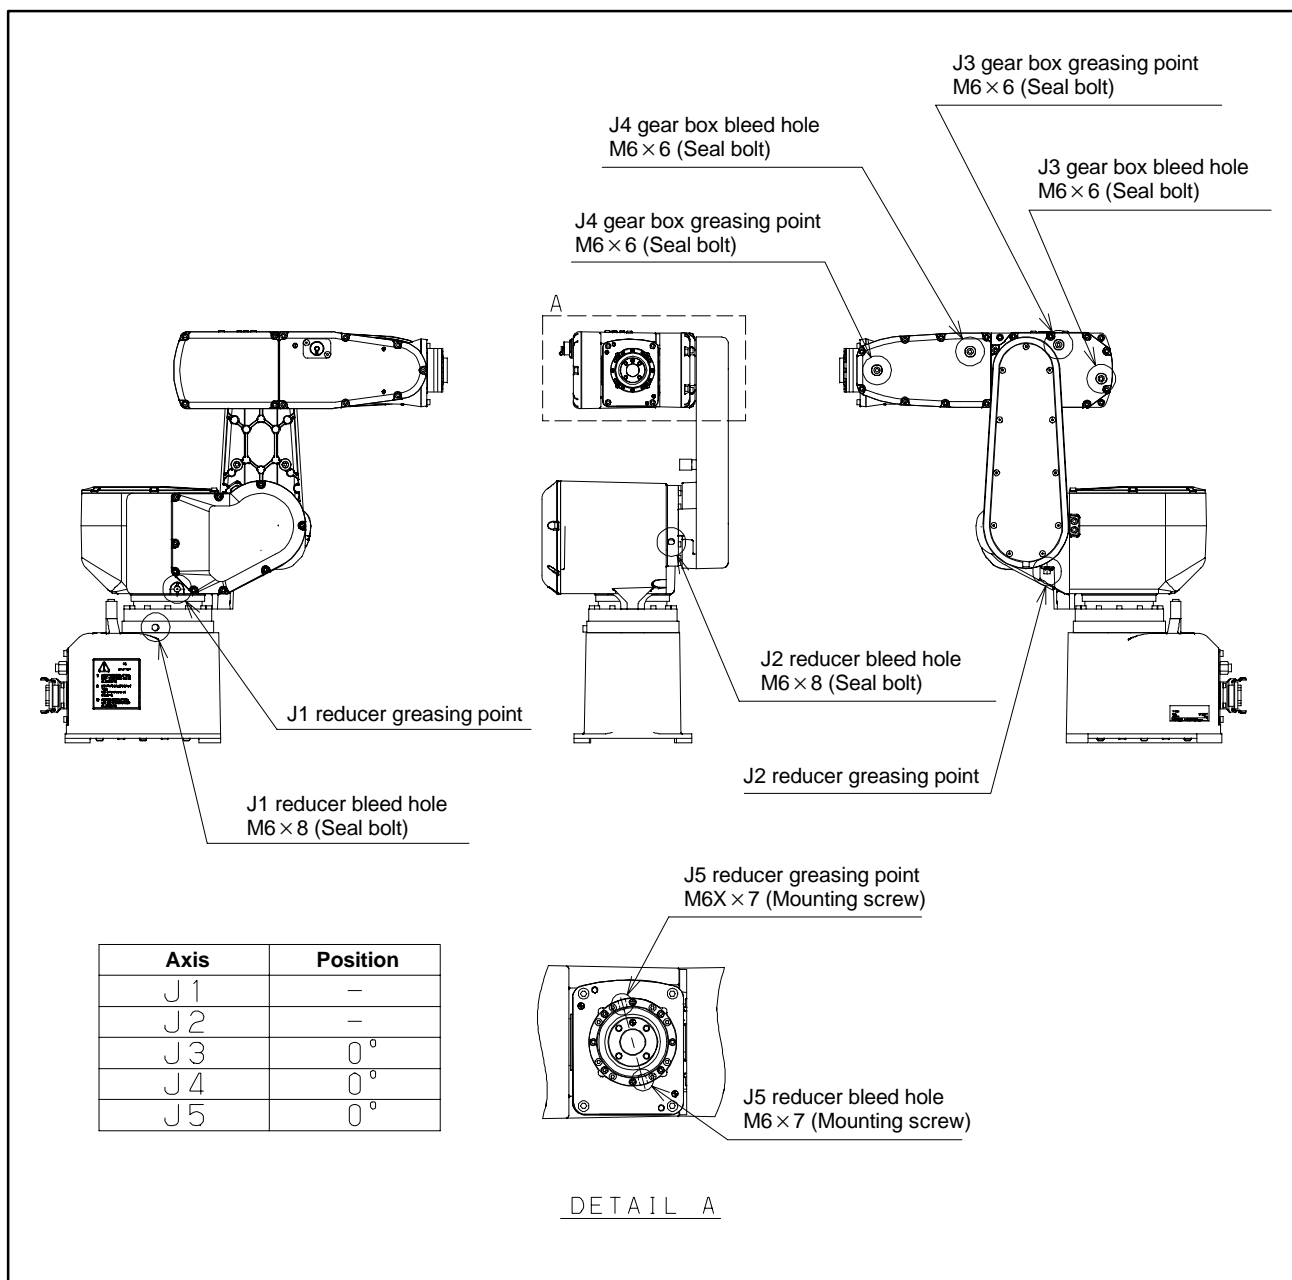

Fig.3.1 Greasing point
Replace the grease of the reducers of the J1, J2, and J5 axes, and the grease of the gear boxes of the J3 and J4 axes yearly according to the procedure below. See Fig. 3.1 for the greasing points and greasing attitude.
- 1) Move the robot to the greasing attitude shown in Fig. 3.1.